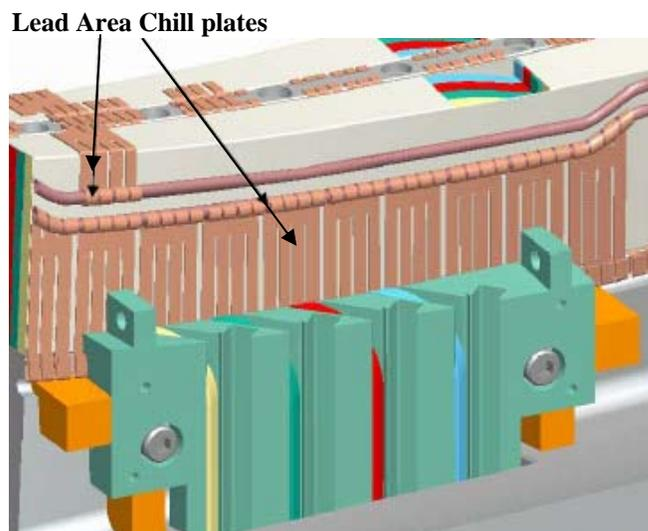

Figure 33- Chill Plates in Lead Area
- 6.30.1 Install the modified upper and lower chill plates and cooling tubes in the lead area on both sides “A” and “B”. Fitup and trimming of components will be required. Use approved NCSX assembly drawings. See Figure 33- Chill Plates in Lead Area